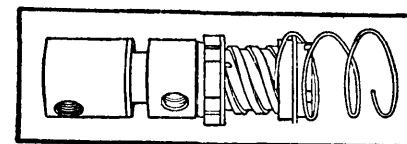

Fig. 3.
2. Just catch the end coil of the anti-drift spring over the stop nut, see Fig. 3.